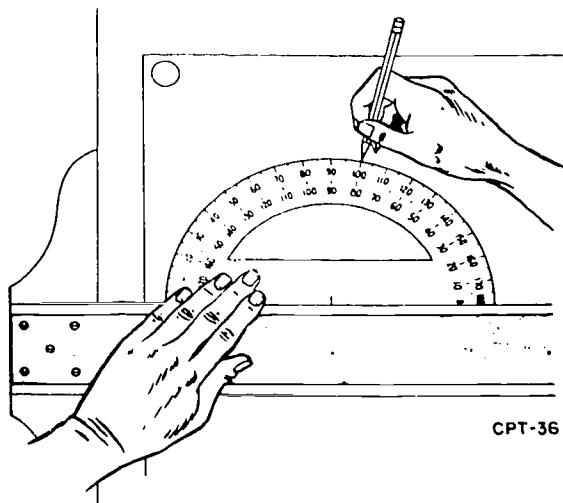

Figure 1-58. Protractors.
**Protractor.** It is sometimes necessary to measure or draw angles other than the common  $30^\circ$ ,  $45^\circ$ ,  $60^\circ$ , or  $90^\circ$  variety. When this need arises, a protractor like the one shown in figure 1-58 can be used. The protractor is a semicircular scale divided into 180 equal parts ( $180^\circ$ ). It usually is made of plastic, and it is used for drawing and measuring angles. Its function is similar to that of the turret protractor head of the combination set that you studied earlier in this chapter, except that a protractor lies flat and is used on the drawing